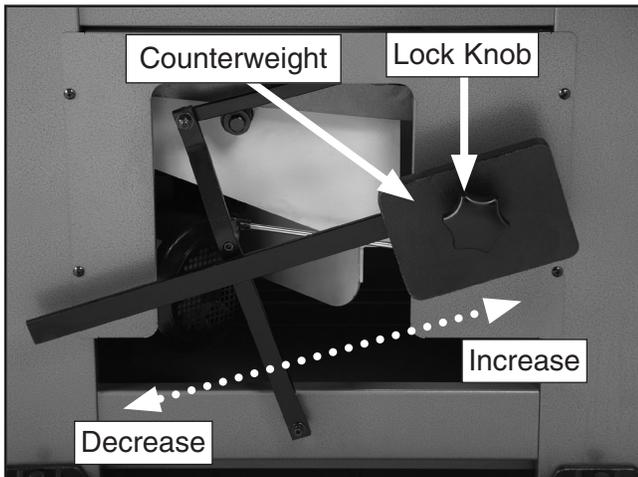

Figure 23. Adjusting feed pressure.
1. Loosen the counterweight lock knob, then slide the counterweight. Moving the counterweight toward the front of the machine increases feed pressure while moving the counterweight towards the back of the machine decreases feed pressure (**Figure 23**).